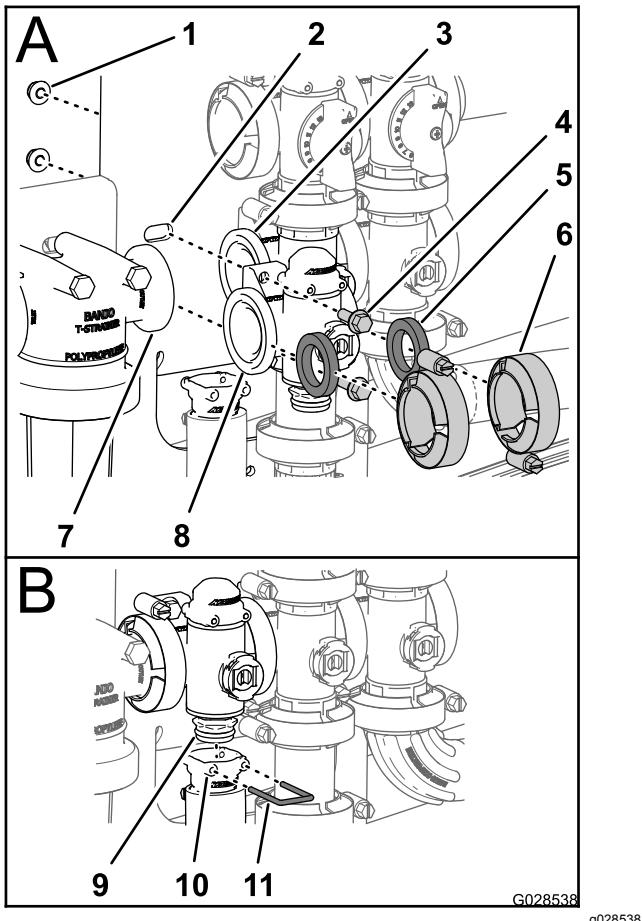

Figure 111
1. Align a gasket between the flanges of the rate control valve manifold and the pressure filter head (A of Figure 111).
2. Assemble the rate control valve manifold, gasket, and pressure filter head with a flange clamp and tighten by hand (A of Figure 111).
3. Align a gasket between the flanges of the rate control valve and the agitation-valve manifold (A of Figure 111).
4. Assemble the rate control valve manifold, gasket, and agitation-valve manifold with a flange clamp and tighten by hand (A of Figure 111).
5. Assemble the rate control valve to the valve mount with the 2 flanged-head bolts and 2 flanged locknuts (A of Figure 111) that you removed in step 3 of Removing the Rate Control Manifold Valve \(page 73\) and torque the nut and bolt to 10 to 12 N·m (90 to 110 in-lb).
6. Assemble the outlet fitting onto the coupling fitting at the bottom of the manifold for the rate control valve (B of Figure 111).
7. Secure the outlet fitting coupling fitting by inserting a retainer into the socket of the outlet fitting (B of Figure 111).